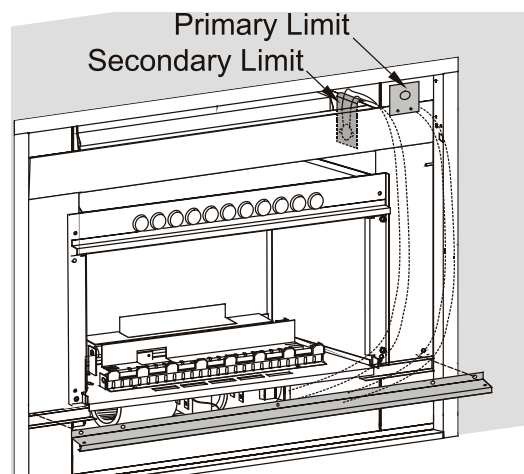

Figure 20. *Installing the secondary spill switch, also see figure 24c.*
9. Reconnect the primary limit switch as shown in figure 24c. Install the secondary spill switch in its location on the right side of the insert, centred in its location as shown in figure 20. Drop the wires between the insert and the shell and connect the spill switch to the thermocouple-gas valve circuit as shown in figure 24c.